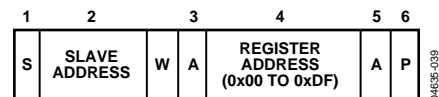

Figure 33. Setting a RAM Address for Subsequent Read
- To write a register address to RAM for a subsequent single byte read from the same address, or a block read or write starting at that address, as shown in Figure 33.